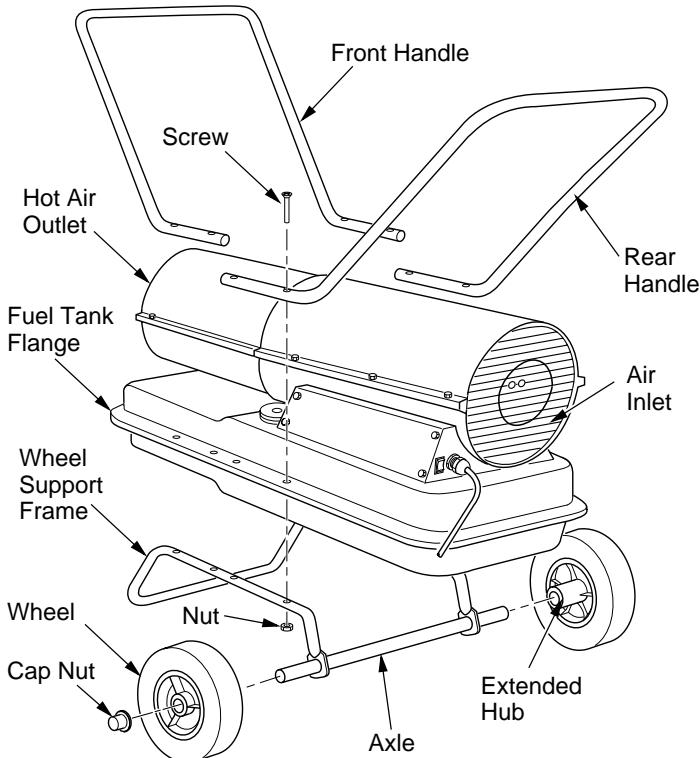

Figure 3 - Wheel and Handle Assembly for Model GK30
1. Slide axle through wheel support frame. Install wheels on axle. **IMPORTANT:** When installing wheels, point extended hub of wheels toward wheel support frame (see Figure 3).